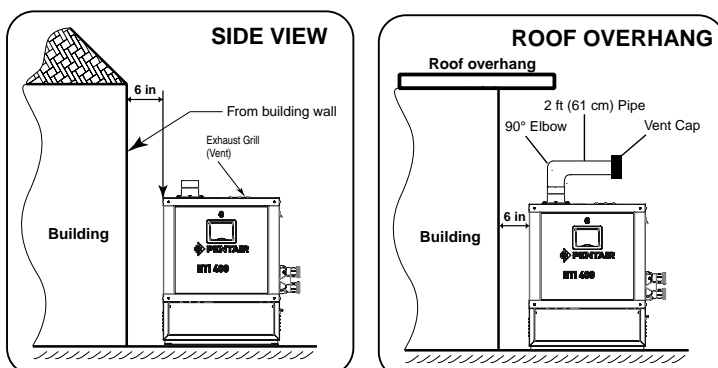

Figure 19.
**⚠ CAUTION!** In an outdoor installation it is important to ensure water is diverted from overhanging eaves with a proper gutter/drainage system. **CAUTION!** If the heater is installed directly under a roof overhang, install a 90° street elbow onto the vent terminal. Install a 2 ft (61 cm) pipe section onto the elbow. Install the vent cap onto the end of the pipe. Direct the vent cap away from the house or building, See Figure 19 below.
*Note: Check local building codes for installing the heater from any property line set back requirements (see Figure 19 on page 25 for installation illustration).*